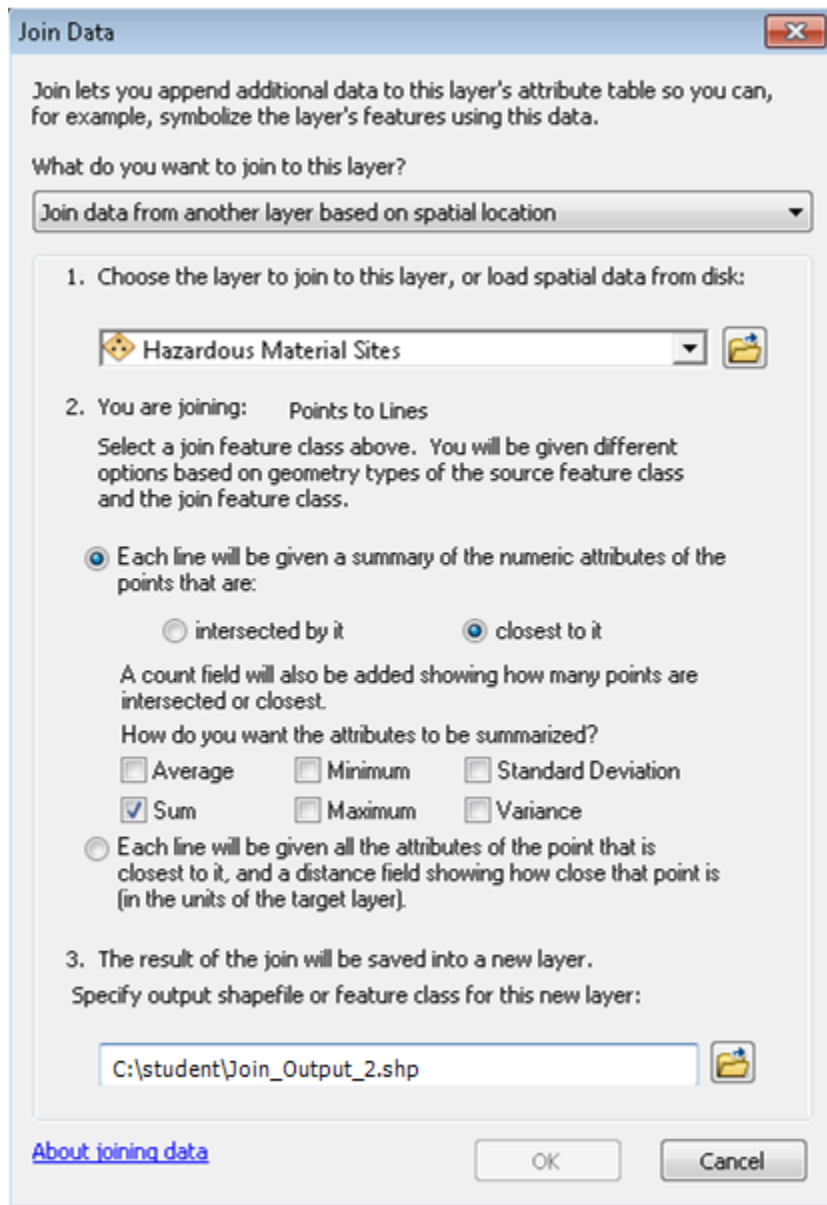

Figure 12. Using the Join tool to determine how many hazardous material sites there are near each cave
- 1 Right-click *Caves* » *Joins and Relates* » *Join* » *Join data from another layer based on spatial location* (figure 12). Choose *Hazardous Material Sites* as the layer to join to this layer. Select the buttons that say *Each line will be given a summary of the numeric attributes of the points that are and closest to it*. Check the box labeled *Sum*. Make sure the new shapefile (*Join_Output_2.shp*) is saved in your student folder.